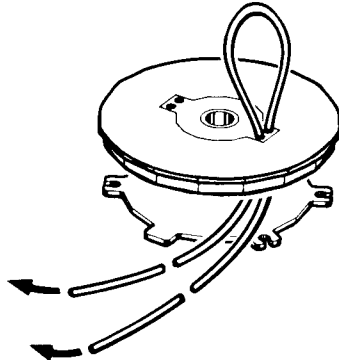

Figure 8-2B
4. Double a 18ft. length of .095 (or .080) cutter line. Thread each end through one of the two sets of holes on the top of the spool. Pull both ends evenly through the holes. (Figure 8-2B)